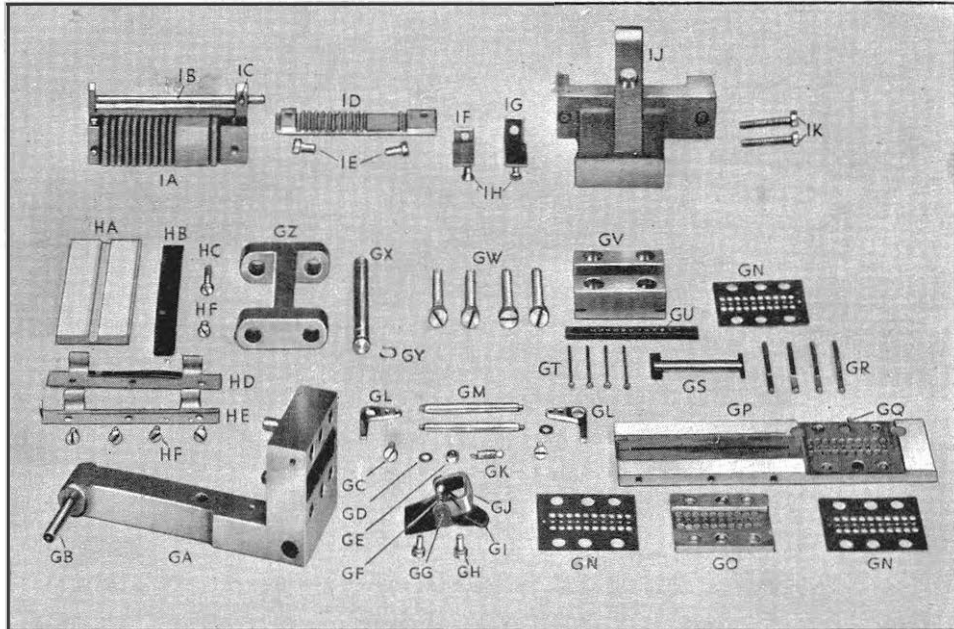

FIG. 7. SPACE STOP BRACKET C.P. 860/91F and PUNCHING HEAD C.P. 860/149E COMPONENTS.
(See Fig. 7)
Design Changes not shown in Fig. 7.
- Spacing rack stops (IF) and (IG) have been made as self locating flat plates, interchangeable with the former design. They are not bent at right-angles nor secured by screws (IH) as shown in Fig. 7.
- Space stop rack (IA) has been steady-pinned to space stop bracket (IJ).